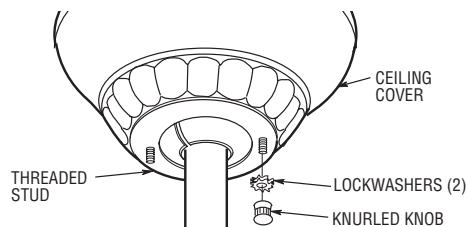

Figure 13
- 4. Lift the ceiling cover up to the threaded studs and turn until studs protrude through the holes in the ceiling cover (Figure 13).
- 5. Secure the ceiling cover in place by sliding lockwashers over the threaded studs and installing the two knurled knobs (supplied). (Figure 13.) Tighten the knurled knobs securely until the ceiling cover fits snugly against the ceiling and the hole in the ceiling cover is clear of the downrod. Your fan is now wired to be turned on and off from the fan switch.